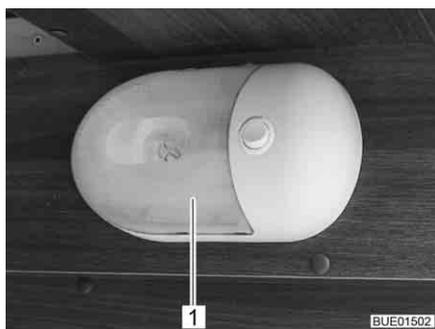

Fig. 239 Surface mounted light
- Carefully push the transparent cover (Fig. 239,1) together from both sides, pull it lightly from the switch and pull it off forwards.